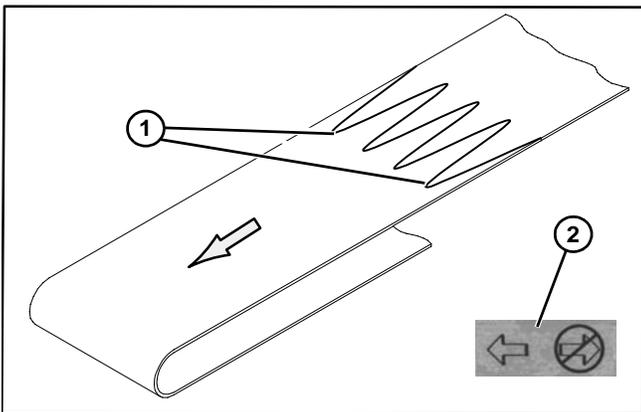

Figure 78
2. Orient belt so splice leading fingers (Figure 78, item 1) point in the direction of belt travel as identified by the conveyor directional label (Figure 78, item 2).